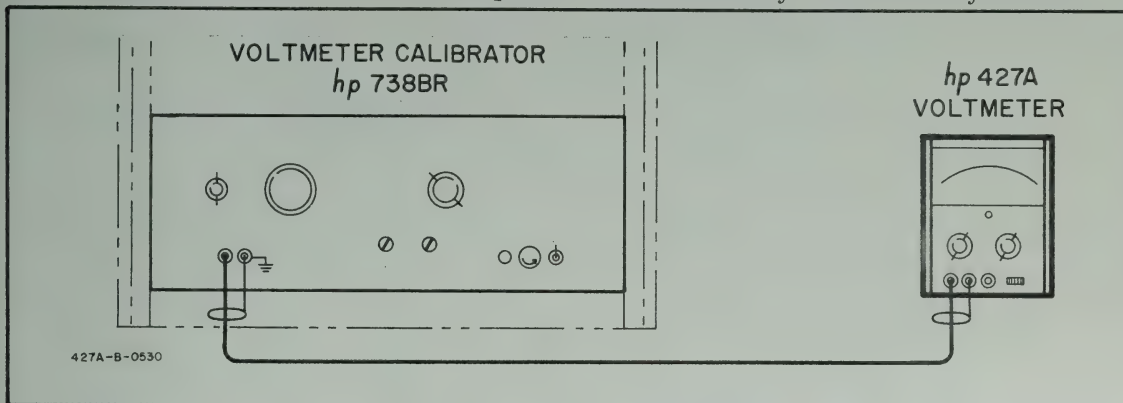

Figure 5-3. DC Accuracy and Linearity Check
Model 738BR Voltmeter Calibrator is accurate to within  $\pm 0.1\%$  of the indicated output. Figure 5-3 shows the test setup for the DC Accuracy and Linearity Check.
- c. Connect the voltmeter calibrator and the Model 427A as shown in Figure 5-3.
5-39. A dc voltage standard is needed to calibrate the dc ranges. A2R3, A2R4, and A2R5 are adjusted for full scale inputs on the 0.1, 0.3, and 1 volt ranges respectively. The 3 volt through 1000 volt ranges are calibrated by A2R5 and require no special calibration. Use the test setup in Figure 5-3.